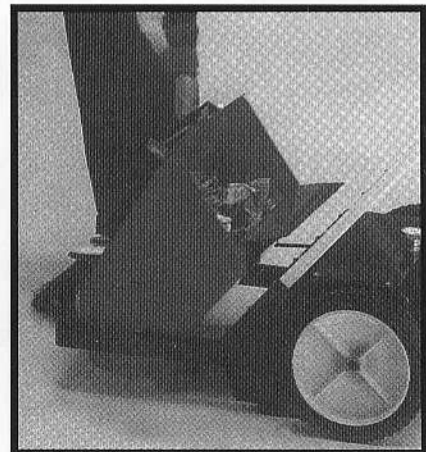

FIG. 1
1. REMOVE THE (4) HANDLE MOUNTING SCREWS FROM THE ANGLE BRACKETS ON THE MACHINE.
2. SLIDE THE HANDLE OVER THE ANGLE BRACKETS. LINE UP THE HOLES IN THE HANDLE WITH THE HOLES IN THE ANGLE BRACKETS AND REINSTALL THE (4) SCREWS.
6. INSTALL THE BLACK PHILIPS HEAD SCREW IN THE SIDE BROOM ARE AS SHOWN IN FIG. 1. TIGHTEN THE SCREW TO HOLD THE PIN IN PLACE.
11. INSTALL THE SIDE BROOM ON THE SIDE BROOM ARE USING THE (3) SCREWS AND THE (3) LOCKWASHERS FROM THE HARDWARE PACKAGE.
13. SCREW THE SIDE BROOM ADJUSTMENT KNOB INTO THE SIDE BROOM ARM, AS SHOWN IN FIG. 1. ADJUST THE KNOB SO THAT ABOUT 1/3 OF THE SIDE BROOM BRISTLES ARE TOUCHING THE FLOOR.
14. LOOSEN THE (2) SCREWS THAT HOLD THE SIDE BROOM BRACKET AGAINST THE CHASSIS. MAKE SURE THAT THE HEIGHT ADJUSTMENT SCREW IS BETWEEN THE EDGES OF THE STOP BRACKET ON THE FRAME. PULL THE SIDE BROOM FORWARD AS FAR AS THE BELT WILL ALLOW, AND TIGHTEN THE SCREWS.